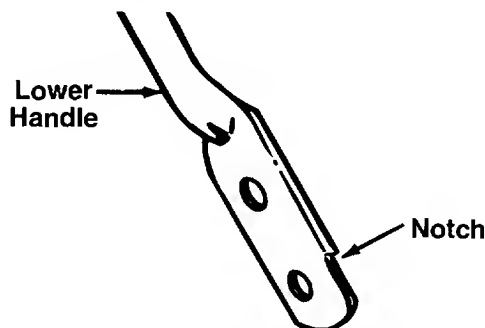

FIGURE 8.
4. Turn the lower handle around so the notches on the bottom of the lower handle are facing forward as shown in figure 8. Reassemble, placing the bottom holes in the handle over the weld pins in the handle mounting bracket.